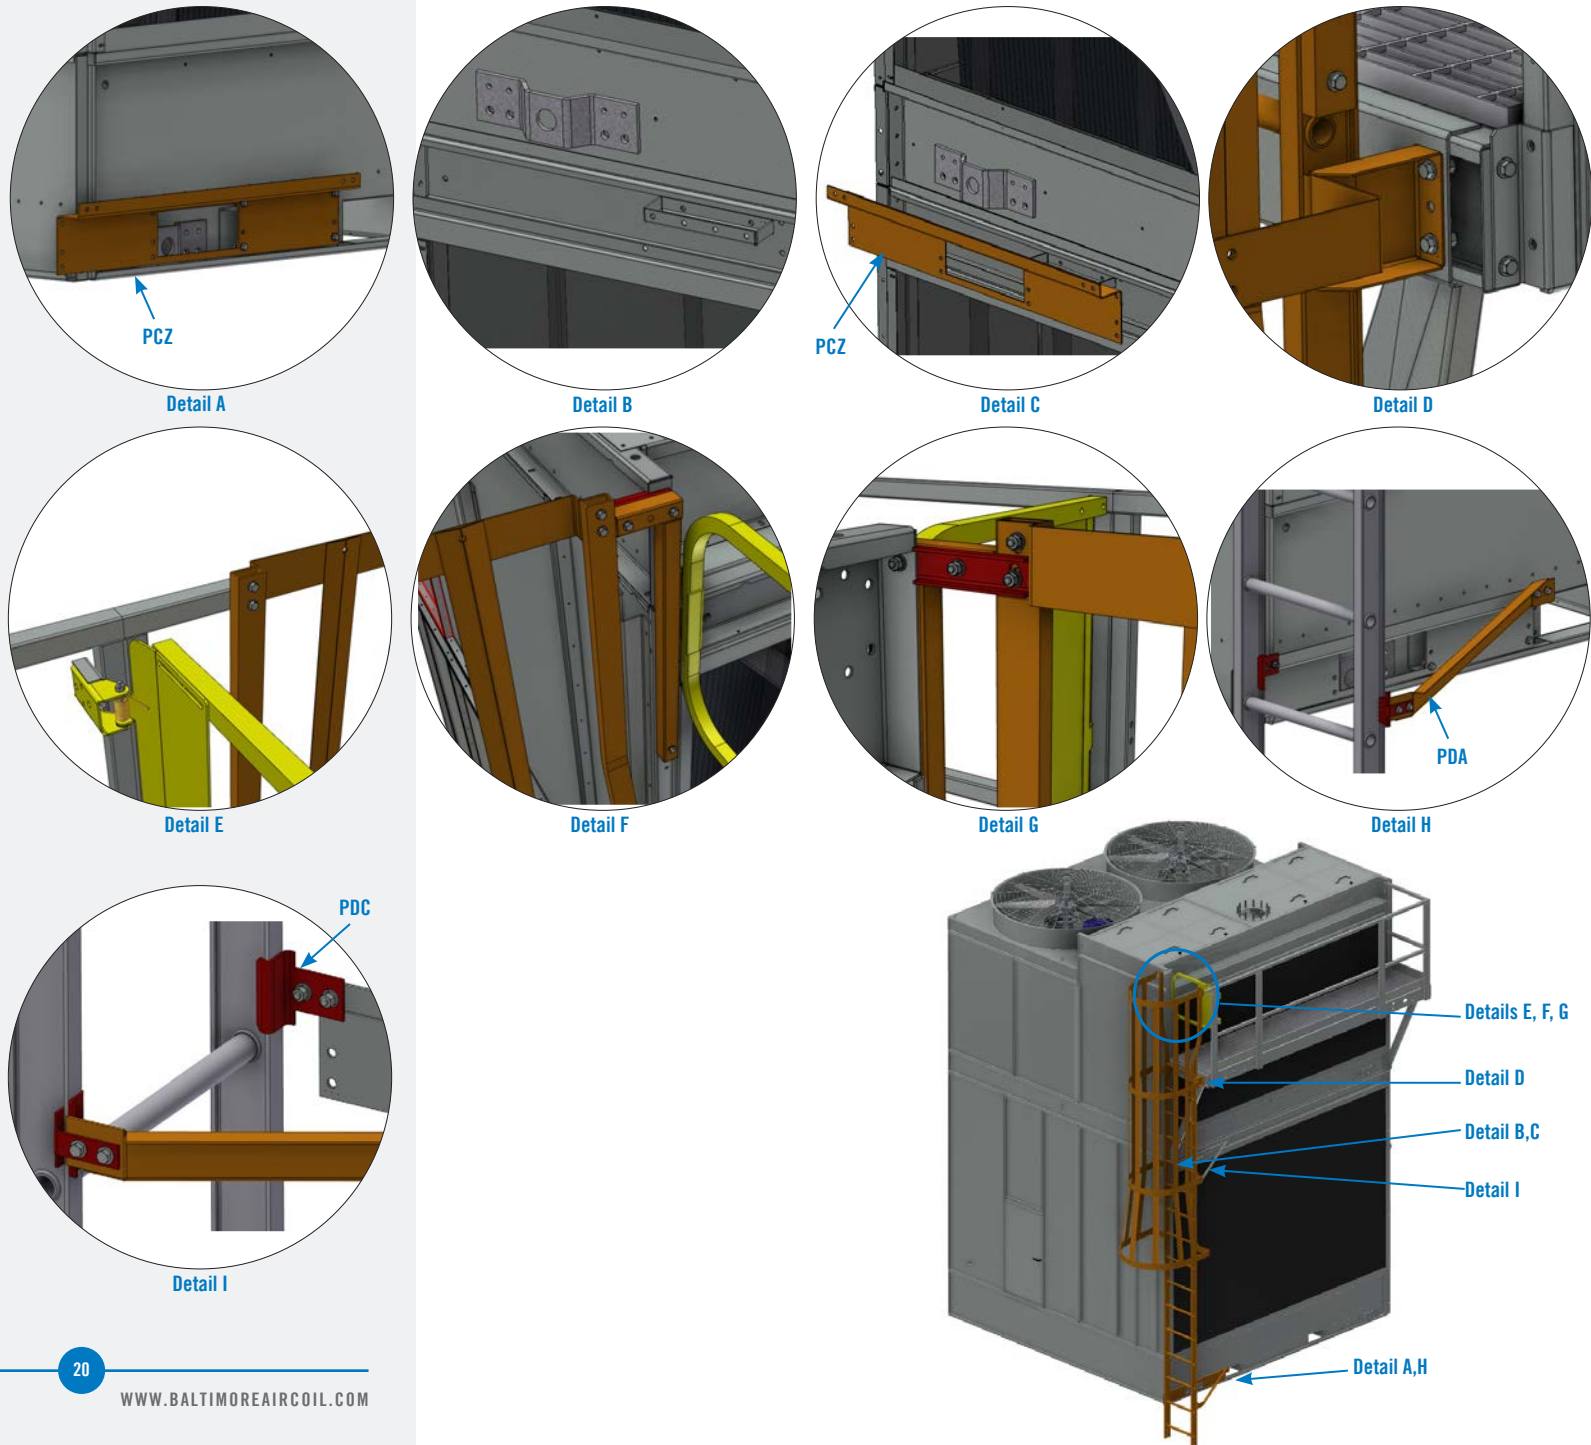

Figure 28. Louver Face External Platform with End Ladder
1. Secure the lower support channel to the pre-mounted bracket using 3/8" bolts provided. See **Figure 28, Detail A**.